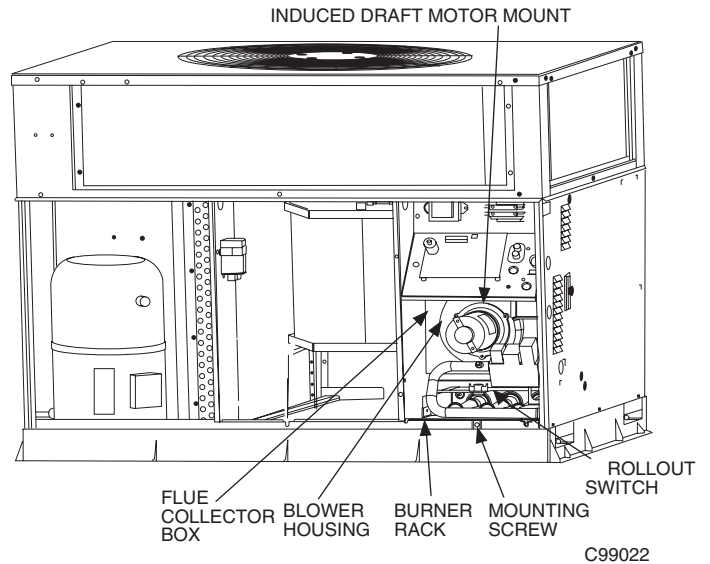

Fig. 27—Blower Housing and Flue Collector Box
2. Remove the 3 screws holding the blower housing to the flue collector box cover (See Fig. 27–30).
7. Remove the mounting screw that attaches the burner rack to the unit base (See Fig. 27).
8. Slide the burner rack out of the unit (See Fig. 27 and 30).